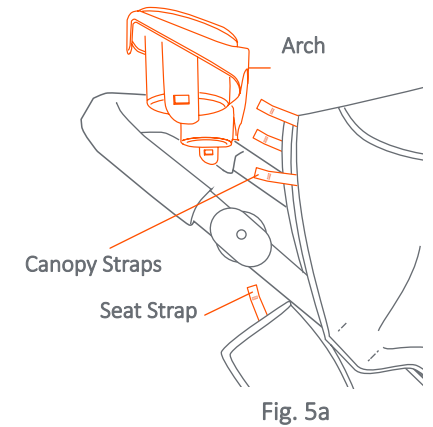

Fig. 5a
(1) Face the tray with the prominent arch side towards the canopy. Locate the three canopy straps and seat strap (Fig. 5a).